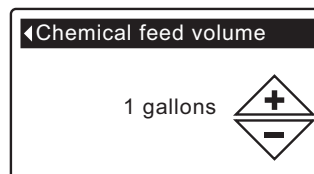

FIG. 76
7. Press the SELECT (O) button to display the Chemical feed volume or Chemical feed timer menu (See Figures 76 & 77).